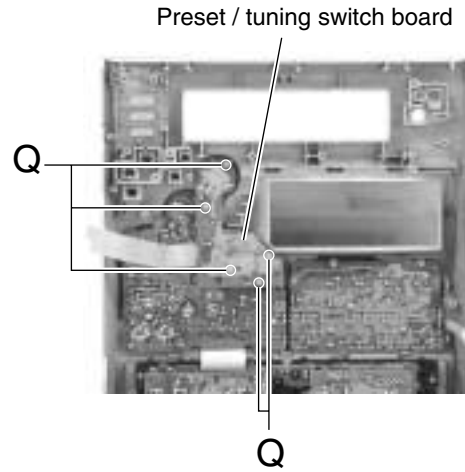

Fig.29
■ **Removing the preset / tuning switch board (See Fig.29 and 30)**